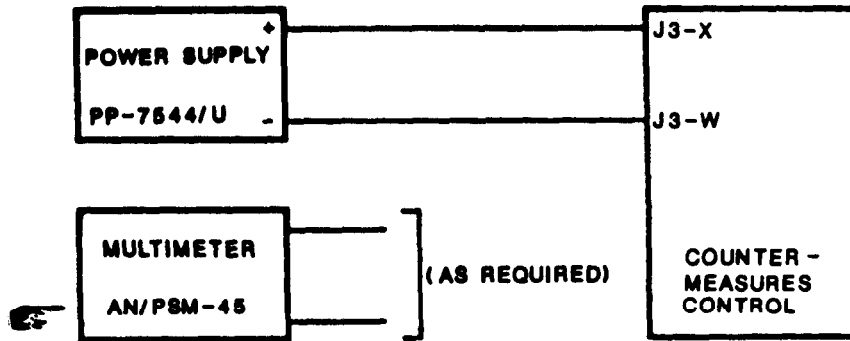

Figure 5-1. Countermeasures Control Mission Power Test Setup
a. Voltage Regulator A1 Troubleshooting. The voltage regulator troubleshooting procedure (table 5-2) checks operation of circuit breaker CB1 and voltage regulator A1. After performing general inspection and cleaning procedures in section IV of this chapter, refer to table 5-2 and perform each step in sequence. Figures 5-1 and 5-2 show test equipment connections referenced in table 5-2. After isolating the problem, refer to section IV of this chapter for the appropriate maintenance procedure.